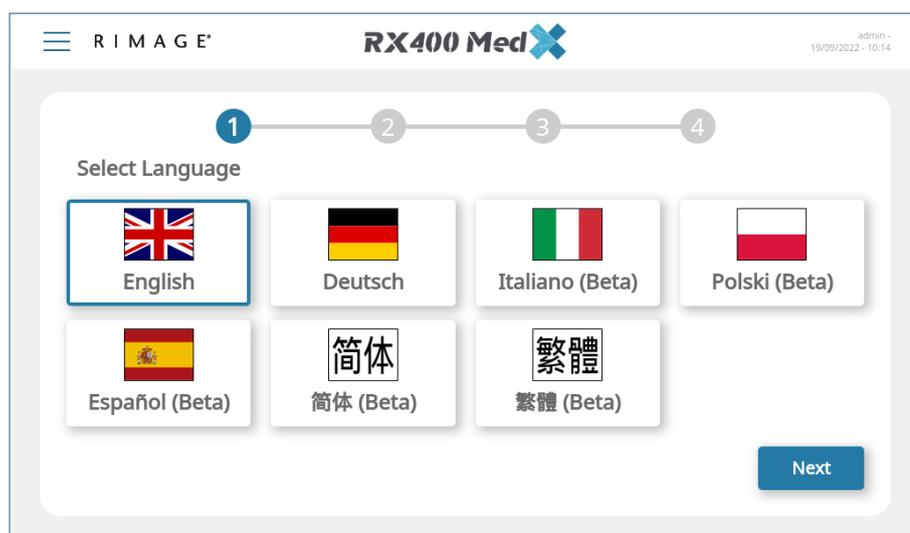

Figure 6: Interface Language
Step 1: Select the user interface language (see Figure 6)